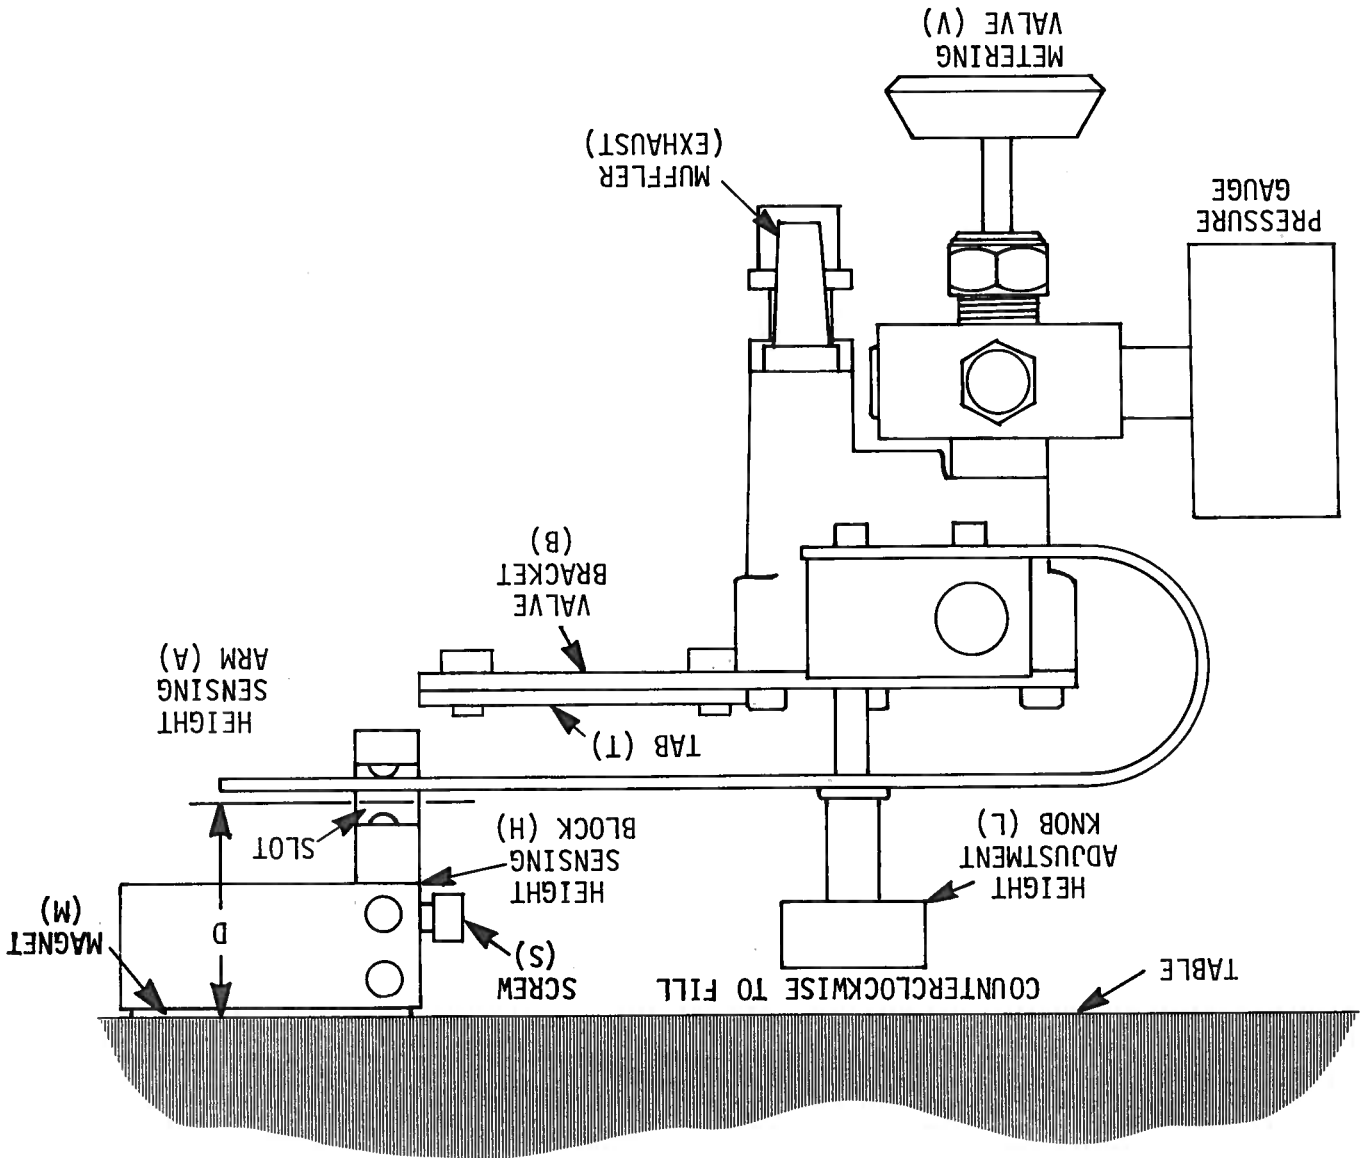

FIGURE 2
1. Remove all packing material inside the top of the isolation mounts. Position and orient the air mounts according to Figure (1).
2. Attach the leveling valves by bolting the valve brackets (B) to tab (T) on the legs, as shown in Figure 2. Only three leveling valves are supplied, because a plane is defined by three points. Two of the valves have an elbow connector, and one has a tee connector.
5. The height sensing blocks (H) are held by a magnet (M) to the bottom of the table. Position the sensing blocks (H) so that the height sensing arms (A) of the leveling valves fit into the slots in (H), as shown in Figure 2. If necessary, the dimension (D) of the height sensing blocks (H) can be adjusted by loosening the screw (S), relocating the magnet (M) and then tightening the screw (S).